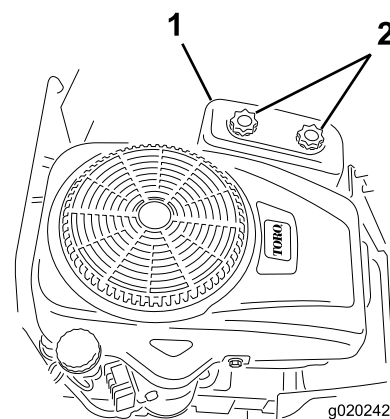

Figure 29
4. Remove the air-cleaner cover by unscrewing the 2 knobs (Figure 29).
3. Install the air-cleaner cover, and tighten the 2 knobs (Figure 29).